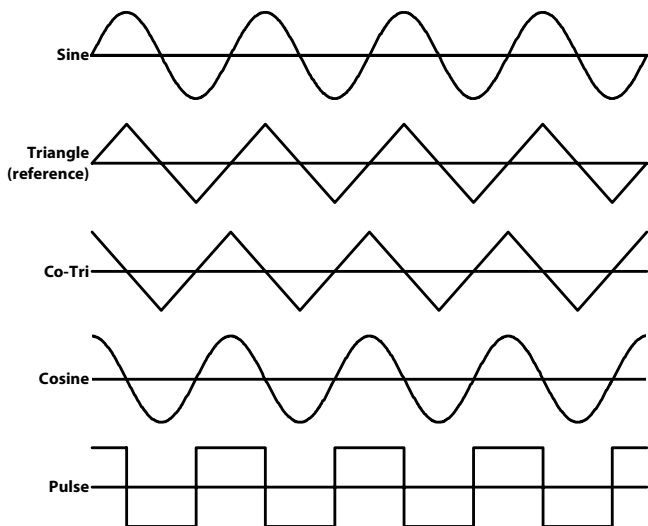

Fig. 4 The LFO waveforms
The waveforms were provided by the jacks (12)-*rectangle*, (14)-*triangle*, (16)-*Co-triangle*, (17)-*Cosine*, (18)-*Sine*. Fig. 4 shows all waveforms in their correct phase relationship.